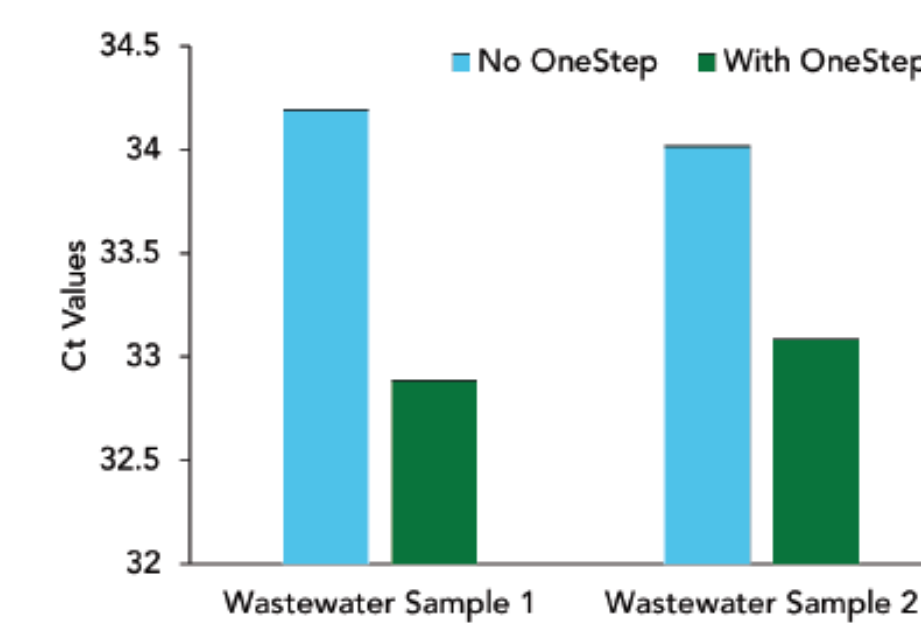

Fig. 4 RT-qPCR amplification of norovirus recovered from 40mL wastewater, untreated (blue) or treated with OneStep PCR Inhibitor Removal column (green).
- **Reduce inhibitors** and improve downstream amplification with the **OneStep PCR Inhibitor Removal column⁵** (Fig. 4)